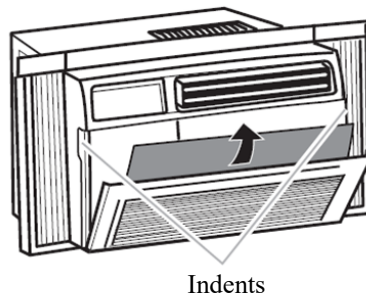

FIG. 14
1. Remove the filter by pulling down on the indents of the filter door on the front of the unit (See FIG. 14).